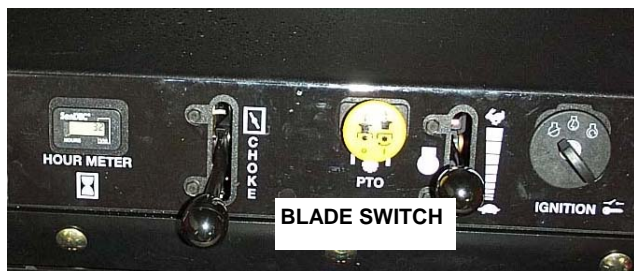

FIGURE 3.2
3. Push blade switch in to “OFF”, blades disengaged position and engage parking brake. See Figures 3.2 and 3.7.
2. Pull the Blade Switch up to the "ON" position to engage or turn "ON" the mower blades. See Figure 3.2.